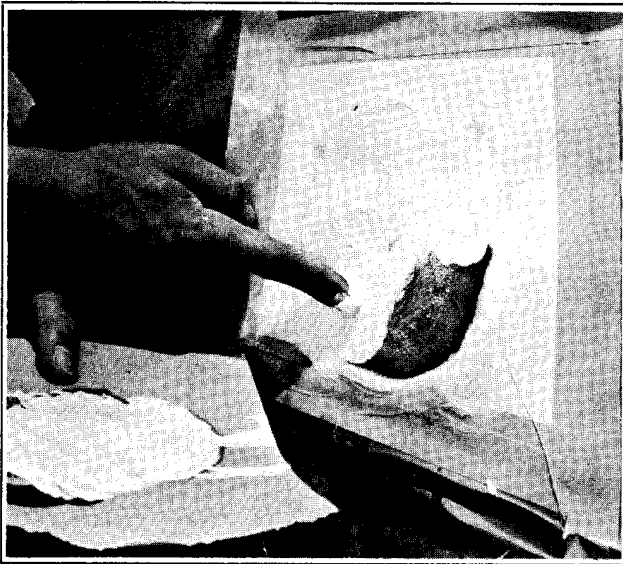

Figure 2-61. Working Gel Coat into Patch
11. Mix gel coat or filler coat with catalyst. Work Gel Coat into patch with fingers. See Figure 2-61. Filler Coat should be filled into patch with a putty knife.